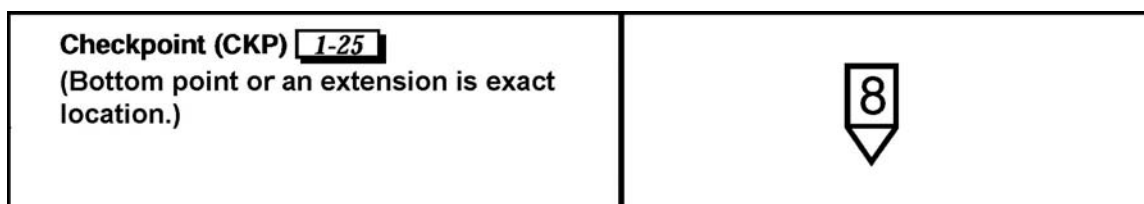

Figure 24. Checkpoint.
- (7) Checkpoints. Checkpoints, Figure 24, are shown graphically by a number, letter, or code word inside an upright rectangle with a pointed bottom. They are easily recognizable terrain features or objects, such as crossroads, churches, lone buildings, stream junctions, hills, bridges, and railroad crossings. They may be selected throughout the area of operation. By reference to these points, the subordinate commander may rapidly and accurately report his location; or the higher commander may designate objectives, boundaries, assembly areas, phase lines, and so forth, to his subordinate commanders.